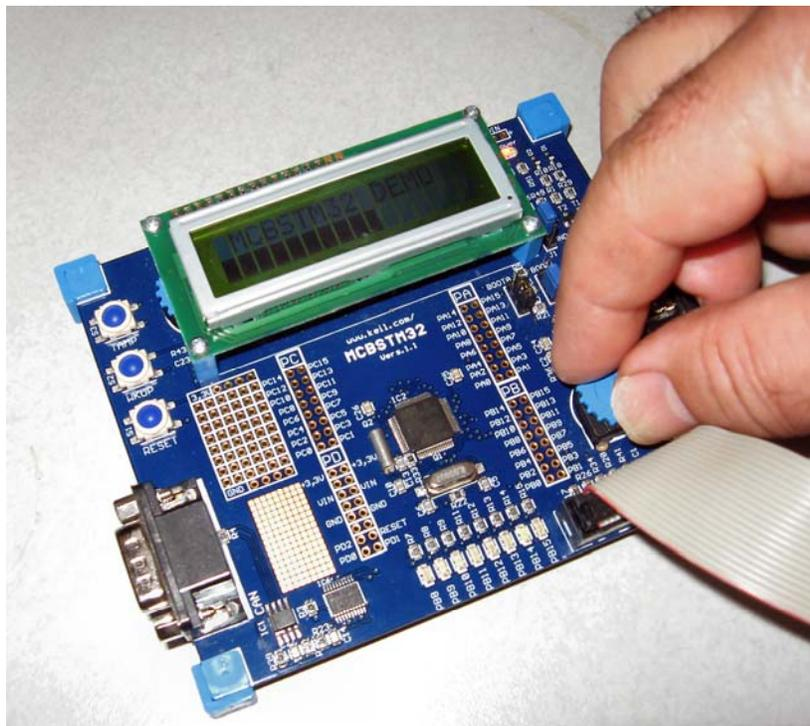

Figure 3 Blinky example – turning the pot.
15. As you turn the pot on the evaluation board, you will see the LEDs change their speed and the bar on the LCD change as shown in Figure 3. This is correct. Congratulations ! Your first μ Vision project !